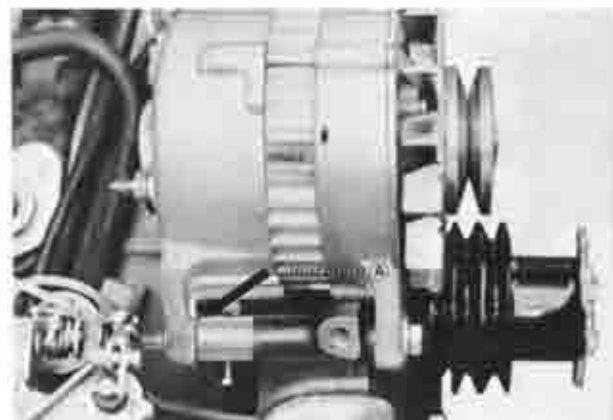

Fig. 1-96 Adjusting alternator fitting
1. Place the alternator to the bracket with the bolt, and check the clearance $\text{\textcircled{A}}$ as shown in Fig. 1-96.